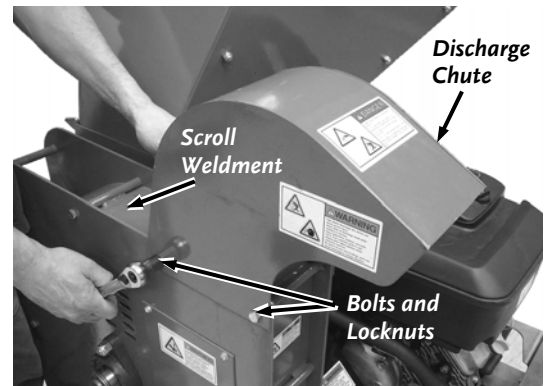

Figure 20
3. Remove the two Bolts and Locknuts that secure the Discharge Chute to the Chipper Basic Assembly with two 1/2" wrenches and then remove the Discharge Chute (**Figure 20**).